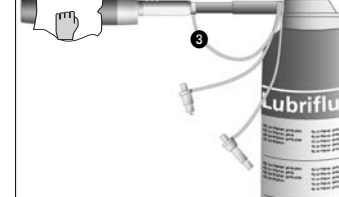

fig. 6
- Insert the plastic nozzle ③ of the Lubrifiuid fully into the nose of the motor (fig. 6).